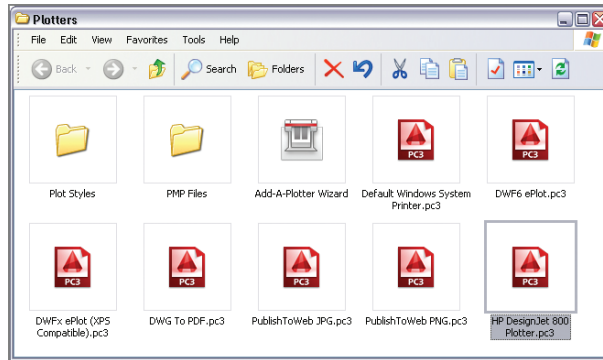

FIGURE 14.6 The new AutoCAD plotter driver appears in Windows Explorer.
- The new AutoCAD plotter driver you just created, HP DesignJet 800 Plotter.pcb, appears in the Windows Explorer window that was opened in step 1 (see Figure 14.6). Close Windows Explorer.